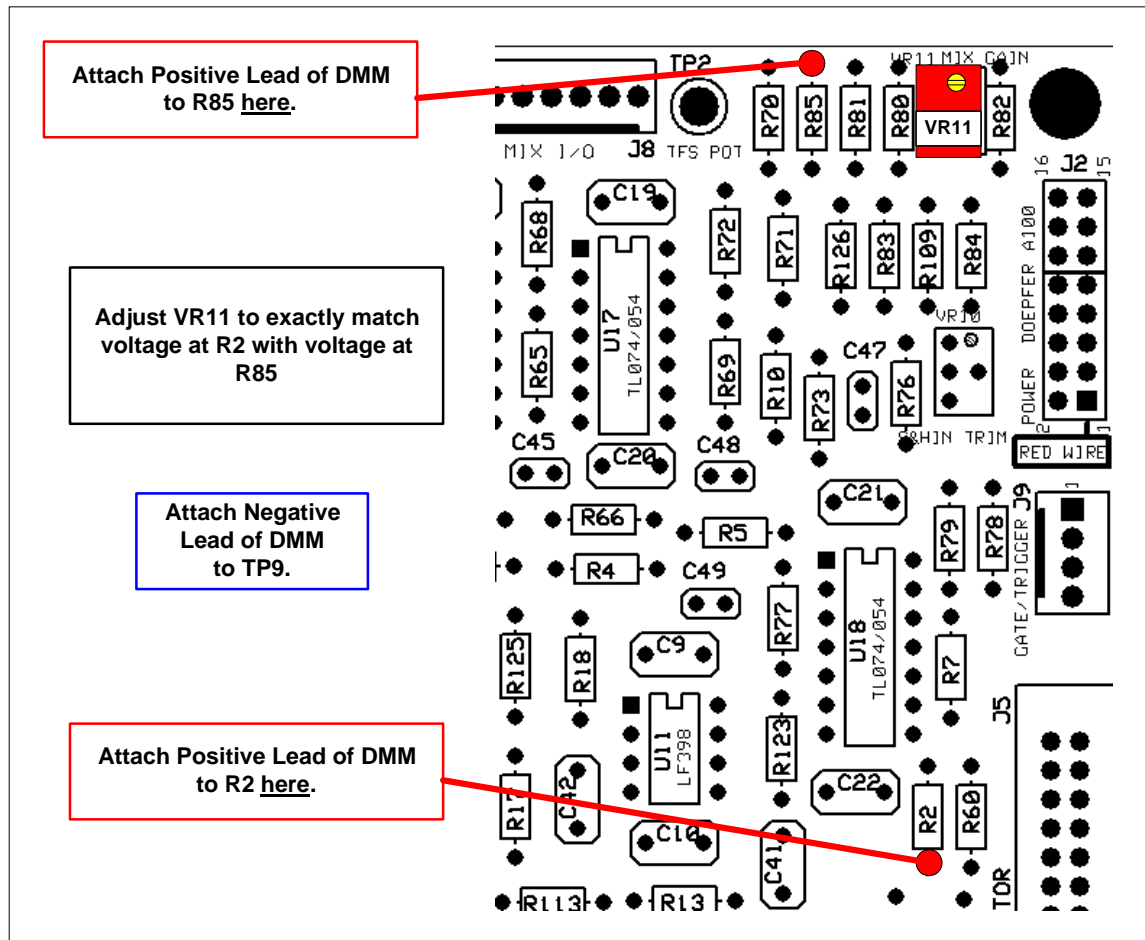

Figure 9-18: Mix Input Unity Gain Calibration
2. Connect the positive lead of the DMM to end of R2 depicted in **Figure 9-18**. Set the DMM to the very lowest range, and measure the voltage present at R2. Adjust the front panel Coarse Offset control (VR105) and Fine Offset control (VR107) for exactly 0V as measured on the DMM. If your DMM is very sensitive, and it's difficult to get exactly 0V (say it's reading a few millivolts or so, record what you do measure here: _____)
5. Connect the positive lead of the DMM to end of R85 depicted in **Figure 9-18**. Measure the voltage present at R85. Record that voltage here: _____.
7. Connect the positive lead of the DMM to end of R2 depicted in **Figure 9-18**.